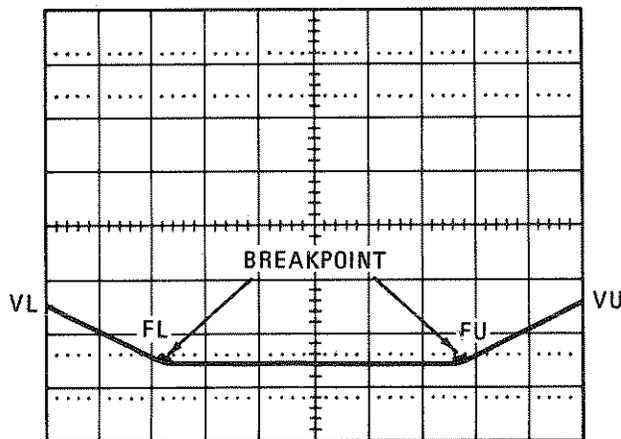

Figure 5-4. Display of Break Points
3. Set marker 1 to FL (frequency low) and set marker 2 to FU (frequency upper). (See Figure 5-4.) Set START frequency to 2 GHz.
4. Adjust A7R27 (B1) to position the break point at marker 1 (FL). Adjust A7R26 (S1) to position the beginning of the oscilloscope trace at VL (voltage low). Note: If voltage and frequency for VL and FL are not shown, adjust A7R27 (B1) fully counterclockwise. A7R26 (S1) should then have no effect on the display.
5. Adjust A7R20 (B2) to position the break point at marker 2 (FU). Adjust A7R21 (S2) to position the end of the oscilloscope trace at VU (voltage upper). Note: If voltage and frequency for VU and FU are not shown, adjust A7R20 (B2) fully counterclockwise. A7R21 (S2) should then have no effect on the display.